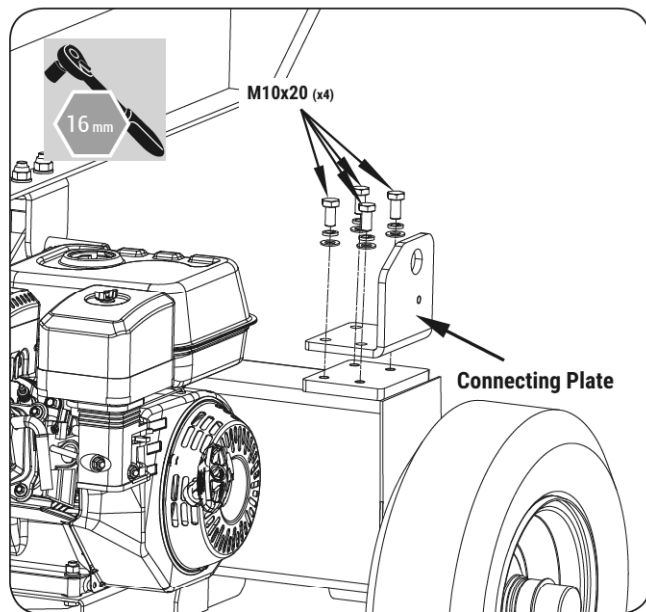

Figure 8
1. Assemble the connecting plate onto the tank, taking care to ensure the correct bending direction of the plate. (See **Figure 8**.)